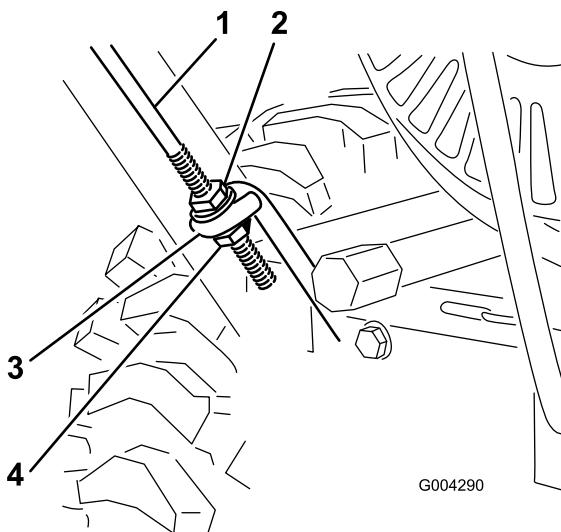

Figure 4
3. Thread a flange nut (not the flange locknut) with the flange down onto the traction rod attached to the left side of the handle (Figure 4).
4. Position the left side of the handle against the side of the machine and insert the end of the traction rod through the lower traction rod loop Figure 4).
- Thread the flange locknut (flange side up) onto the bottom of the traction control rod, below the loop in the lower traction rod (Figure 4).